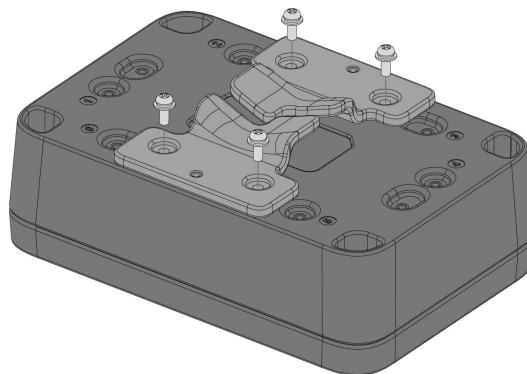

Figure 18: Fixing the pole mount on the enclosure
2. Fix the pole mounts marked with the letter **C** on the WisBlock Unify Enclosure using four (4) pieces of M3*8 mm Head screw with a washer. Place it on fixed positions between number **2 & 3** or **5 & 6** of the enclosure, in **Figure 18**.